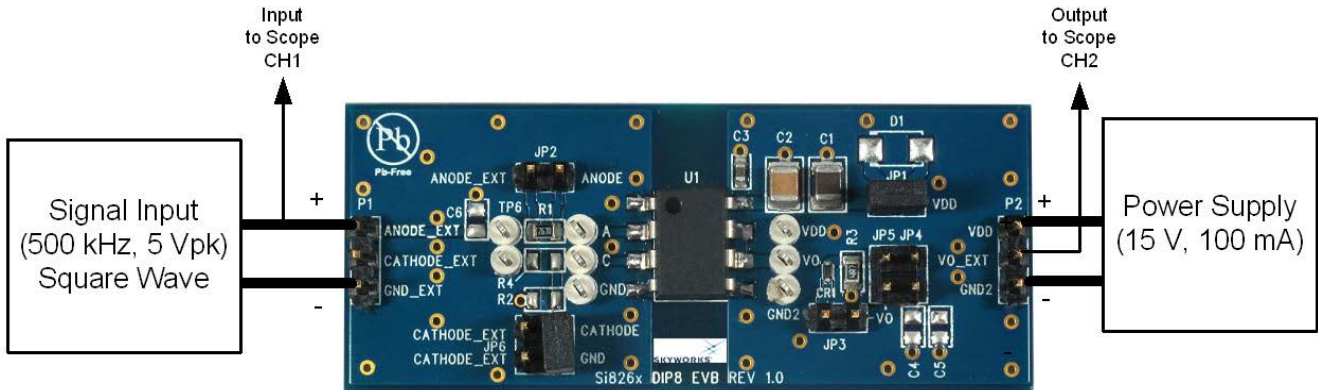
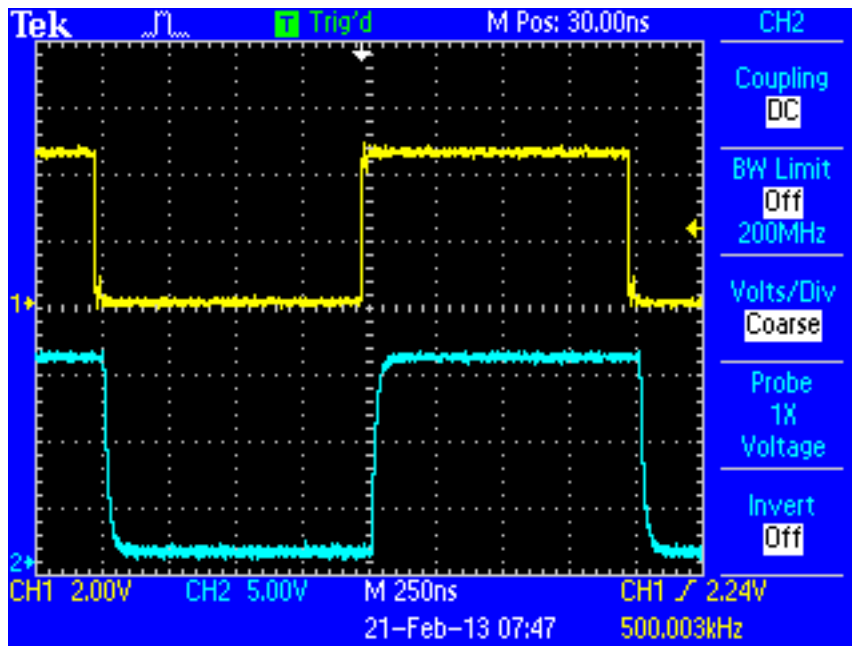
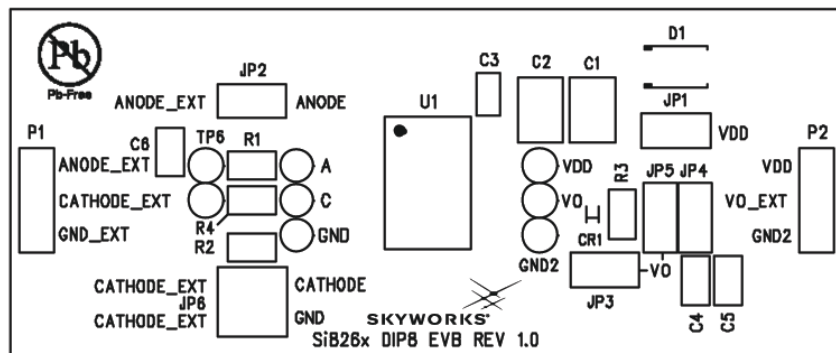
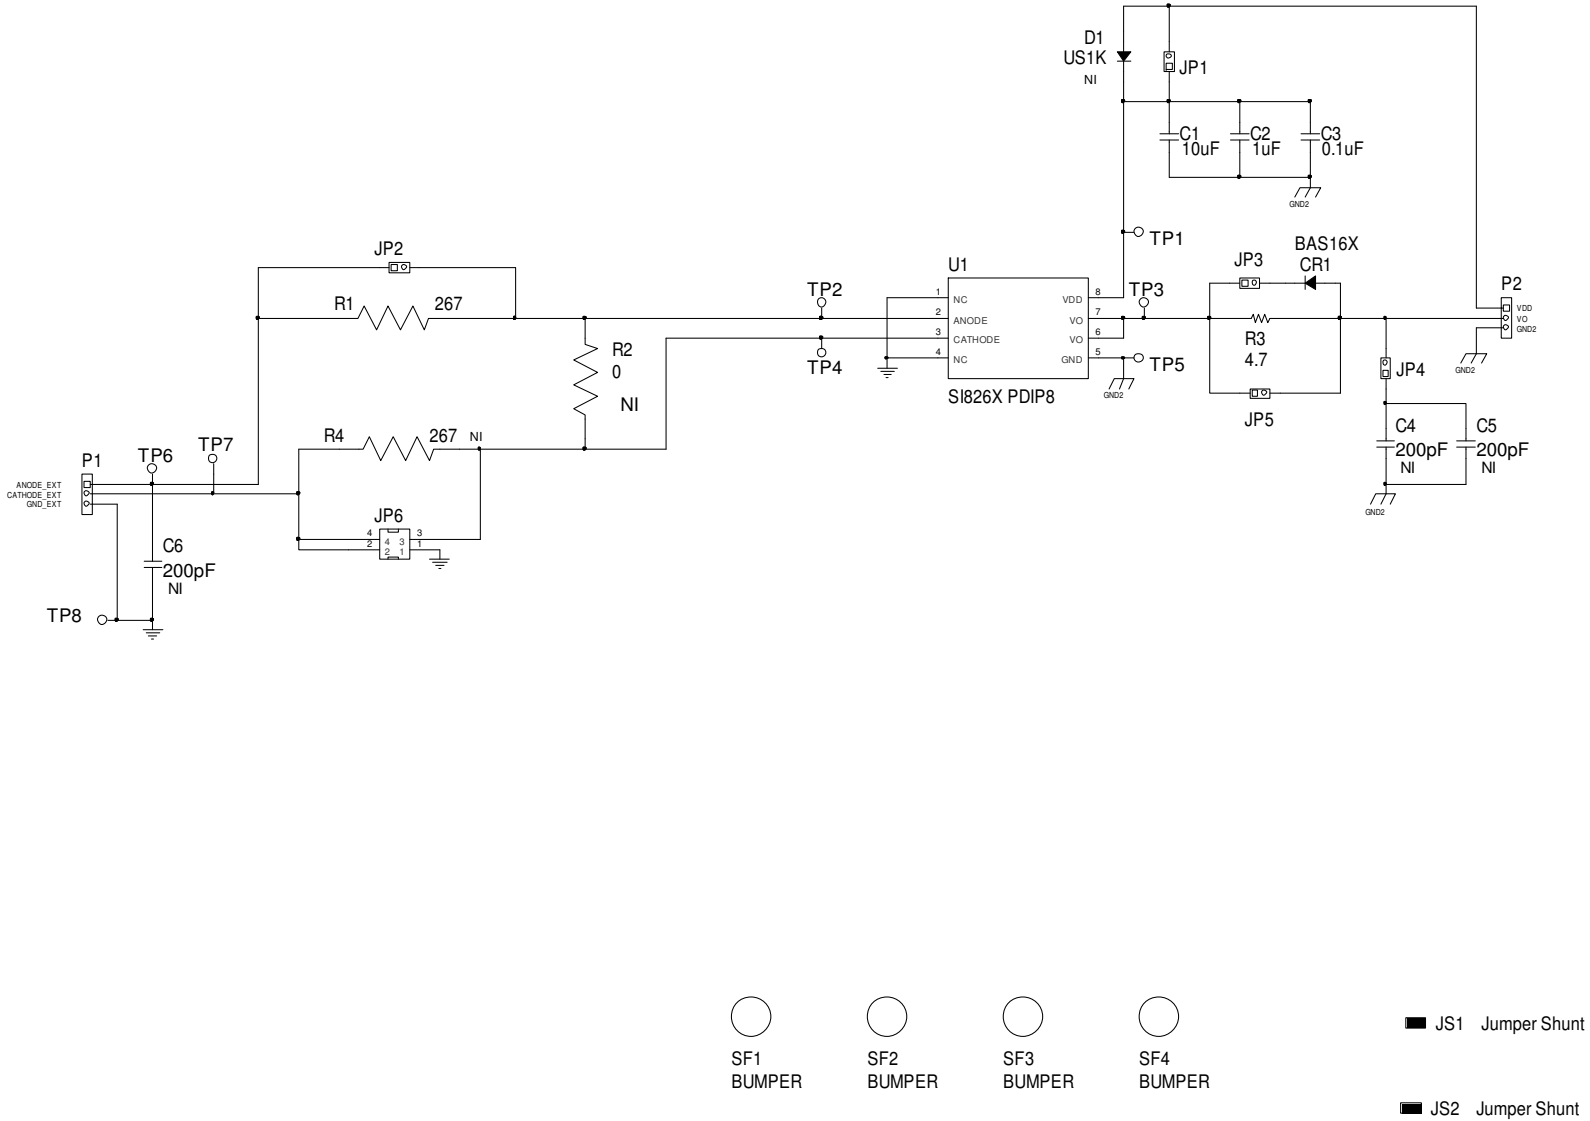

Figure 4. Summary Diagram and Test Setup
Figure 5. Oscilloscope Display of Input and Output
Figure 6. Si826x DIP8 Evaluation Board Silkscreen
Figure 9. Si826x DIP8 Evaluation Board Schematic
Figure 4 illustrates the connection diagram to demonstrate the Si826x-DIP8 EVB. The other footprint boards demonstrate in a similar fashion. This demo transmits a 500 kHz (5 V peak, 50 percent duty cycle) square wave through the ISOdriver to its output (Vo). In this example, VDD is powered by a 15 V supply. Figure 5 shows a scope shot of CH1 (input) and CH2 (output). Note that if a user wants to evaluate an LED Emulator Input ISOdriver other than the ones pre-populated, this can be accomplished by removing the installed device and replacing it with the desired footprint-compatible ISOdriver device.
To run the demo, follow the instructions below. Review Figure 4 and Figures 9 through 11 if necessary.
5. Adjust the level indicator for all channels to properly view each channel as shown in Figure 5.
A 500 kHz square wave should display on Channel 1 of the scope for the input and a slightly delayed 5 V version of this square wave should display the output on Channel 2, as shown in Figure 5. This concludes the basic demo. For more advanced demos, see the following section.
The Si826x evaluation board has several test points. These test points correspond to the respective pins on the Si826x integrated circuits as well as other useful inspection points. See Figures 6 through 8 for a silkscreen overview. See schematics in Figures 9 through 11 for more details as well.